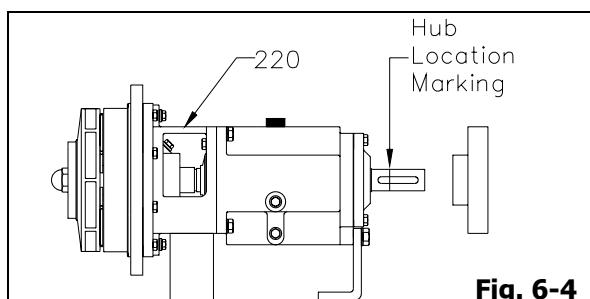

Fig. 6-4
13. Support frame adaptor (220) securely to workbench. Jack out coupling (Fig. 6-4).